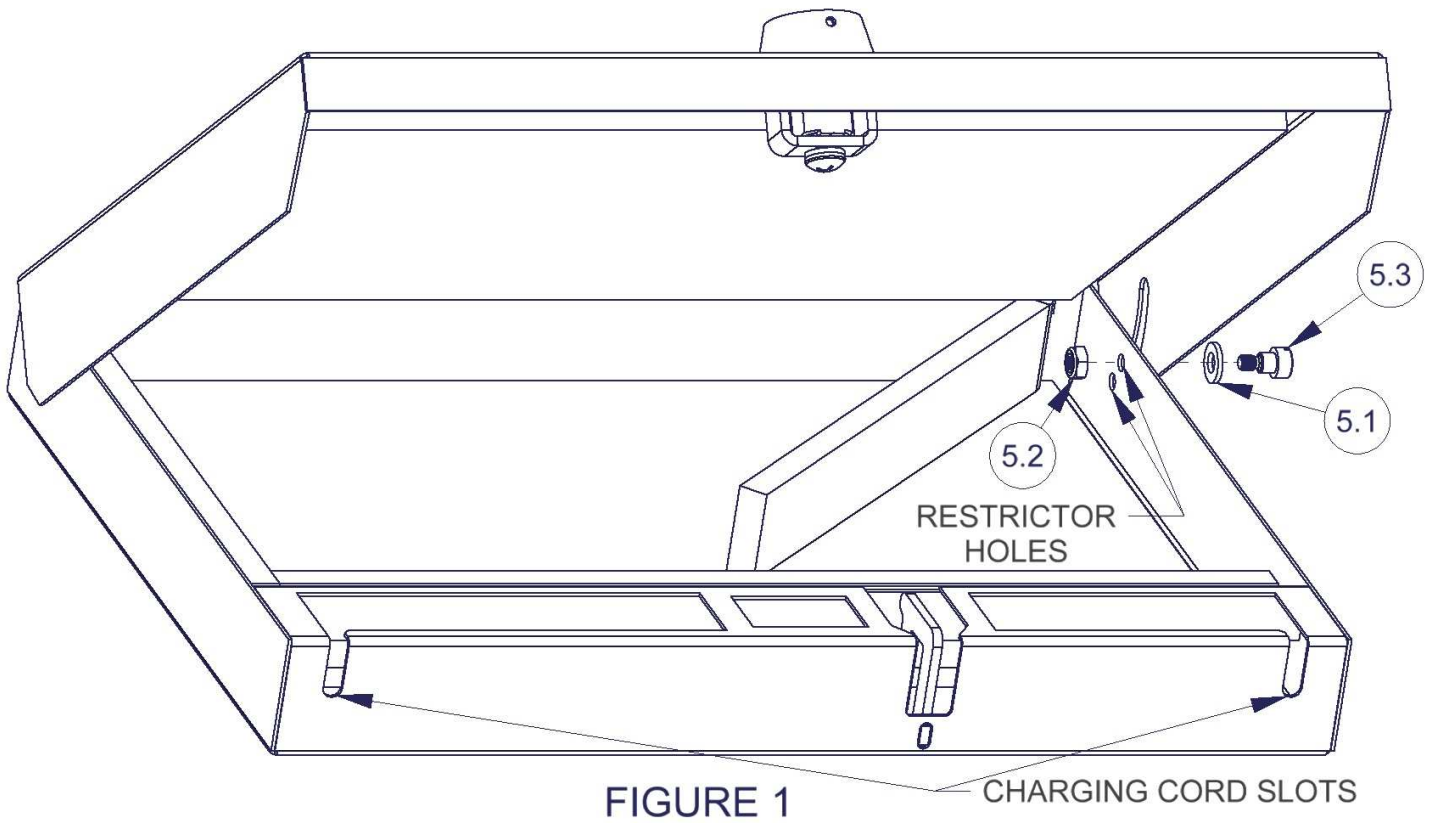

FIGURE 1
**There are two slots(See Figure 1, Page 3) designed to allow a cord of up to ¼” diameter to enter the front of the safe while still maintaining the security of the enclosure.**
3. Route the charging cord into the safe through either of the large openings on the sides of the lock and lanyard areas (See Figure 1), and through the space provided in Step 2.
2. Pull back the forward edge of the Right Side Foam to reveal the right rear corner (See Figure 1).